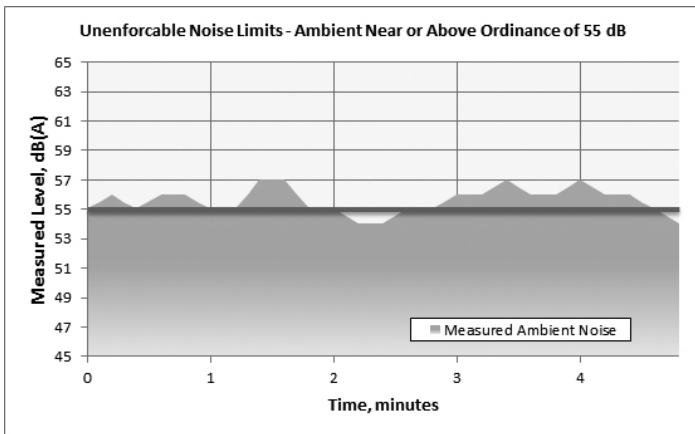

Figure 2 - Ambient Noise Conditions
Municipal codes should be reviewed and assessed to make ensure that their requirements are achievable. A common requirement is an upper limit of 70 dB(A) during the day. The noise floor due to human activity (traffic, etc.) can easily bring the ambient conditions above 55 to 60 db(A) during the daytime (Figure 2). Certain activities such as yard work (lawn mowing, leaf blowing, snow removal) will exceed such ordinances on a regular basis.